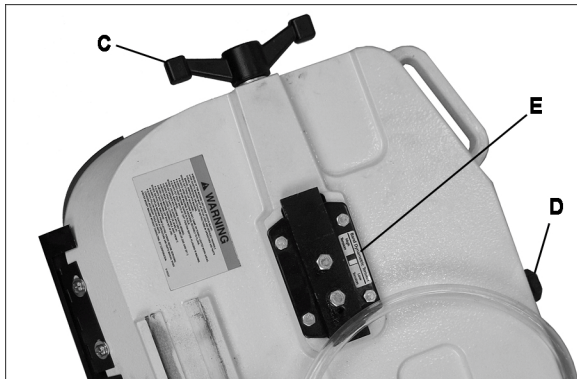

Figure 20
5. Loosen blade tension by turning handle (C, Figure 20) counterclockwise.
6. Open back cover by loosening two lock knobs (D, Figure 20).
3. Lightly tension blade to remove any sag by turning handle (C, Figure 20) slightly clockwise.
4. Turn tension handle (C, Figure 20) 1-3/4 to two revolutions clockwise.
8. Tighten blade by turning handle (C, Figure 20) two full revolutions.
TIP: Slacken blade tension when finished with operations, to prolong blade life. Make note of indicator position on tension label (E, Figure 20) for quickly returning tension to its previous setting.